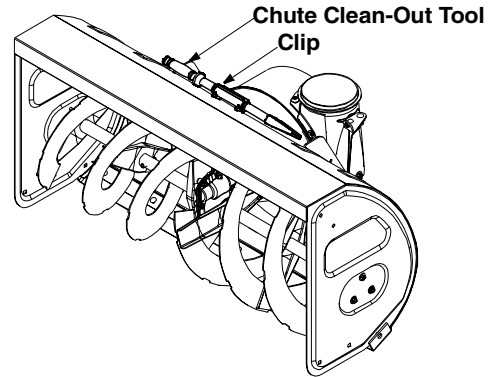

Figure 19
- Remove the clean-out tool from the clip which secures it to the rear of the auger housing. See Figure 19 .